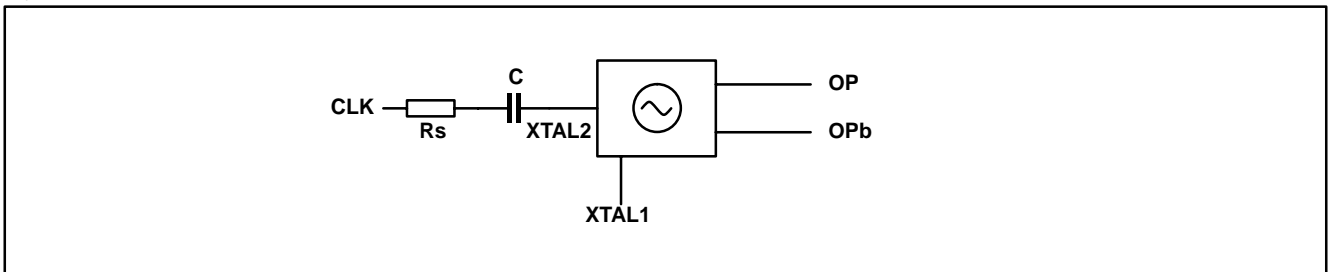

Figure 6 Direct drive of crystal oscillator
1. Ability to directly drive XTAL oscillator from the tester (no crystal). The XTAL2 pin allows direct drive of the oscillator with an external clock source as shown in Figure 6. Typically a 200mVp clock signal is AC coupled to produce differential output on OP and OPB. (C=10nF, Rs (Source) <5k )